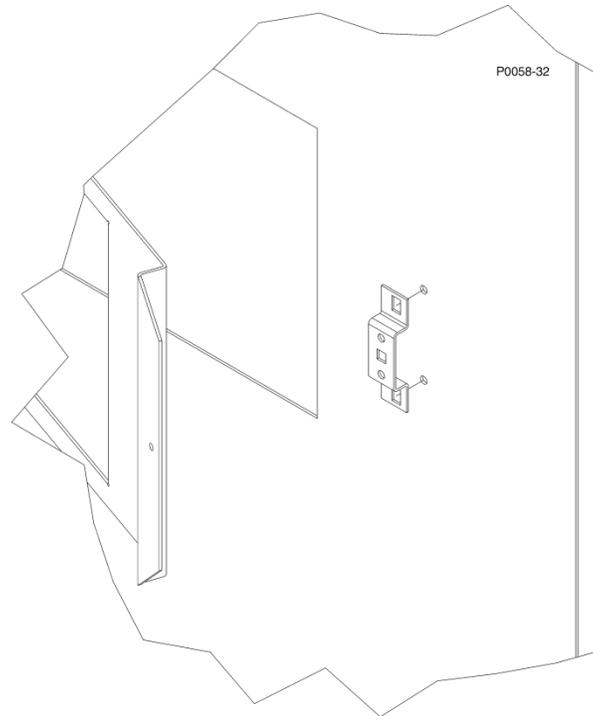

Figure 74. Relocation of Doorstop
5. Using the cutting dimensions illustrated in Figure 72, enlarge the door cutout to accommodate the larger IDP-1200 display panel. Using the drilling dimensions shown in Figure 72, drill new holes for relocation of the doorstop assembly (shown in Figure 74).
7. Remove the doorstop assembly and reattach it to the door using the mounting holes drilled in step 5. Figure 74 shows the doorstop mounting detail.